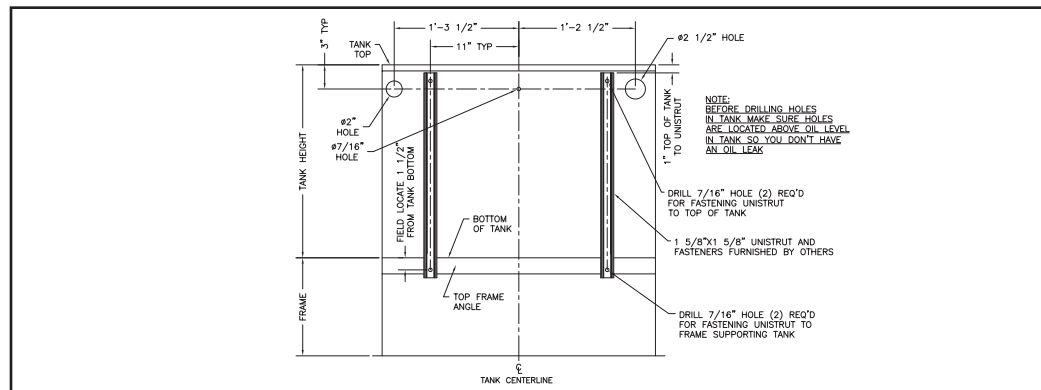

Fig. 8: Optional mounting method using uni-strut.
NOTE: Use optional uni-strut mounting for additional structural supports (figure 8) if oil level in tank will not allow drilling per template.
Install Uni-strut per (**figure 8**). Install oil cooler mounting bracket onto the uni-strut using the (4) 3/8-in. hex head bolts, washers and nuts provided. Rotate 90° elbow to the necessary position making sure not to loosen fitting.